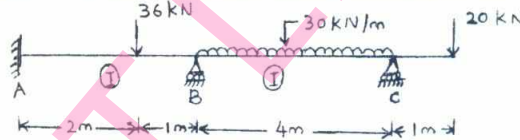

Fig.Q2
- 2 Analyze the continuous beam shown in Fig.Q2 by slope-deflection method. Draw bending moment and shear force diagrams and sketch elastic curve. (20 Marks)